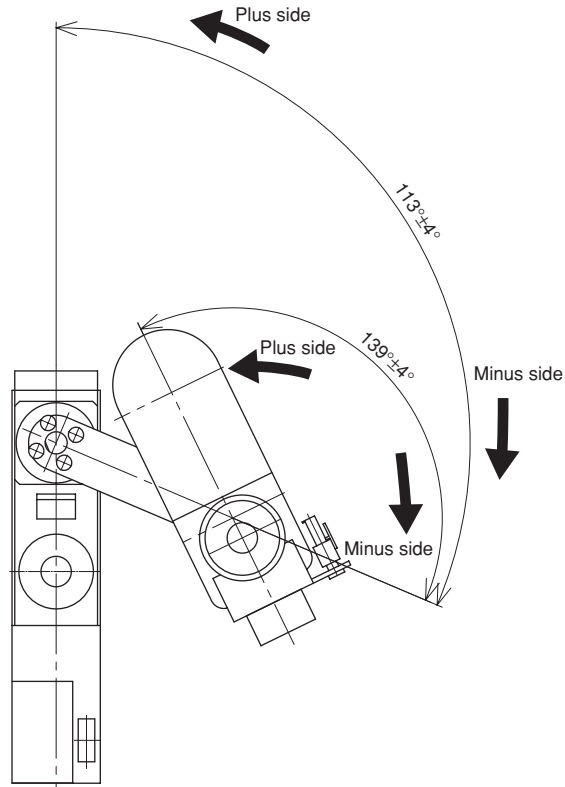

Fig. 4-2 Default origin position (R6YXC120, R6YXC150)
BEFORE STARTING RETURN-TO-ORIGIN OPERATION, MOVE THE X-AXIS TO A POSITION ON THE PLUS SIDE FROM THE ORIGIN POSITION (SEE FIG. 4-2), AND THE Y-AXIS TO A POSITION ON THE MINUS SIDE, SO THAT THE ROBOT IS POSITIONED IN A RIGHT-HANDED SYSTEM AS SHOWN IN FIG. 4-2.
- 6) Confirm that the X-axis is at a position on the plus side of the origin (See Fig. 4-2), and that the Y-axis is at the minus side. Make sure that the robot is positioned in a right-handed system as shown in Fig. 4-2. If the axes are not at these positions, press the jog keys, etc., and move the target axes. When performing absolute reset for the other axes at the same time, confirm that the other axes are also at an appropriate position. (Refer to procedures for absolute reset of other axes)